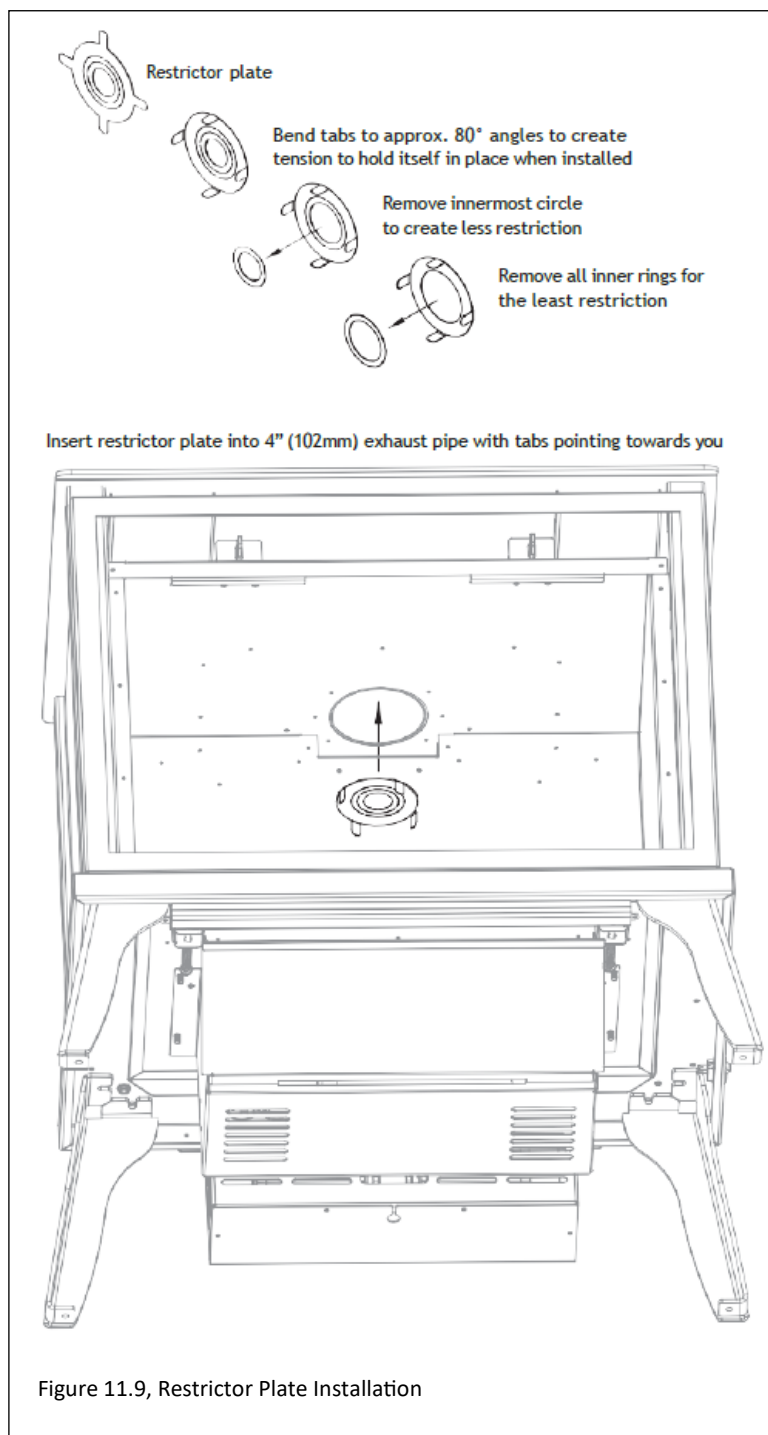

Figure 11.9, Restrictor Plate Installation
There is a vent pipe restrictor plate that is provided with the appliance in the parts packet. See Figure 11.9.
2. Remove (3) screws at the firebox back wall securing the baffle. Remove baffle to access the 4" (102mm) exhaust pipe.
4. Insert restrictor plate into the 4" (102mm) exhaust pipe with the tabs pointing towards you. See FIGURE 11.9.
5. Reinstall baffle by resting the front of the baffle above flange along the inside top of firebox opening. Tip the baffle against the firebox back wall, and secure with (3) screws previously removed.